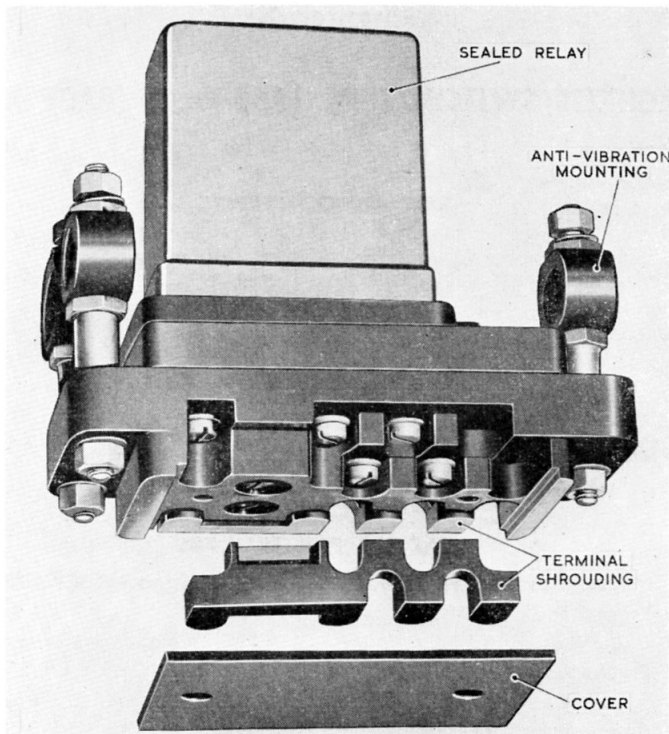

Fig. 1. Magnetic switch, Type 16B, No. 5
2. This switch (*fig. 1*) consists of a sealed relay, Type M1100 (Inter - Service Ref. Z530008) secured to a moulded Bakelite base plate having shrouded 6 B.A. terminals. The switch is designed for panel mounting, and is provided with three rubber anti-vibration mountings incorporating 4 B.A. fixing studs.